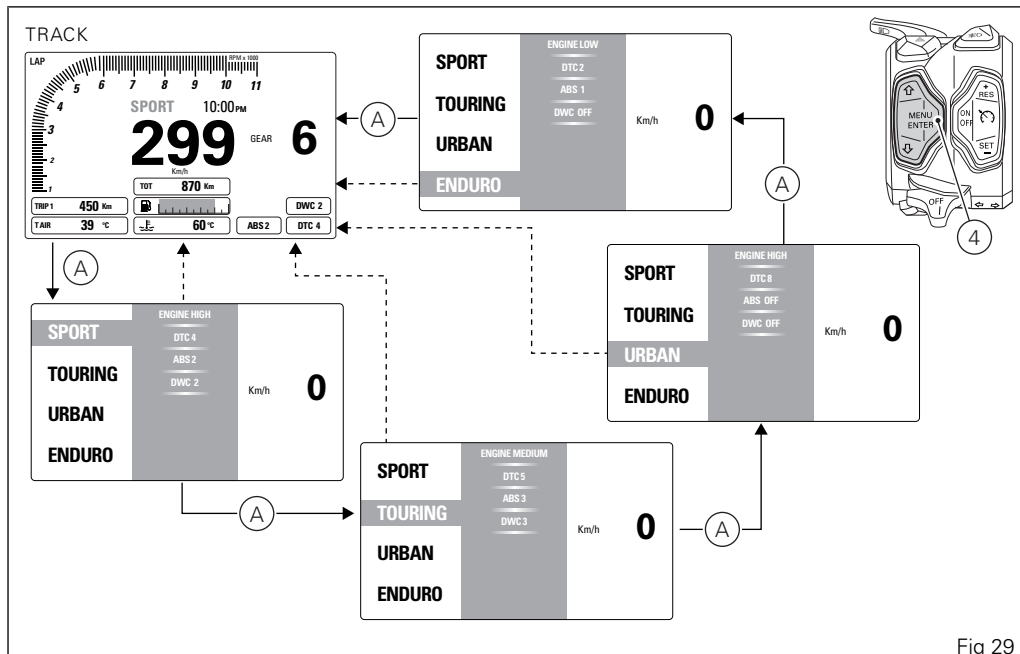

Fig 29
The displayed information are the settings stored in every single Riding Mode. The stored settings may be the factory ones (Ducati default settings) or the ones customized by the owner. Any time the CONFIRM MENU button (4) is pressed, you highlight a riding mode and the associated parameters are displayed (A, Fig 29).